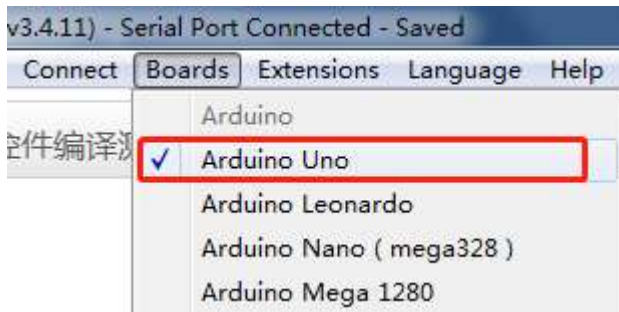

Figure 2-13
- 1) Select the type of control board to transfer the program, select “Control board→Arduino Uno”, as shown in Figure 2-13; select “Edit→ArduinoMode”, as shown in Figure 2-15.